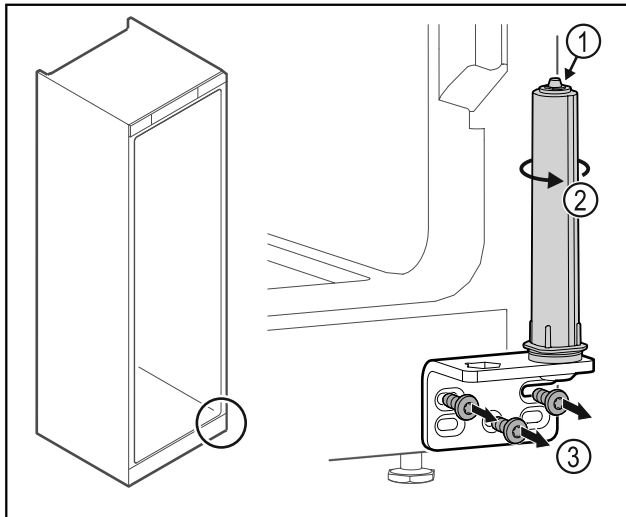

Fig. 28
- ▶ Do not disassemble the door closing system Fig. 28 (1).
- ▶ Turn the closing system Fig. 28 (2) until it clicks.
- ▶ Unscrew the hinge Fig. 28 (3).